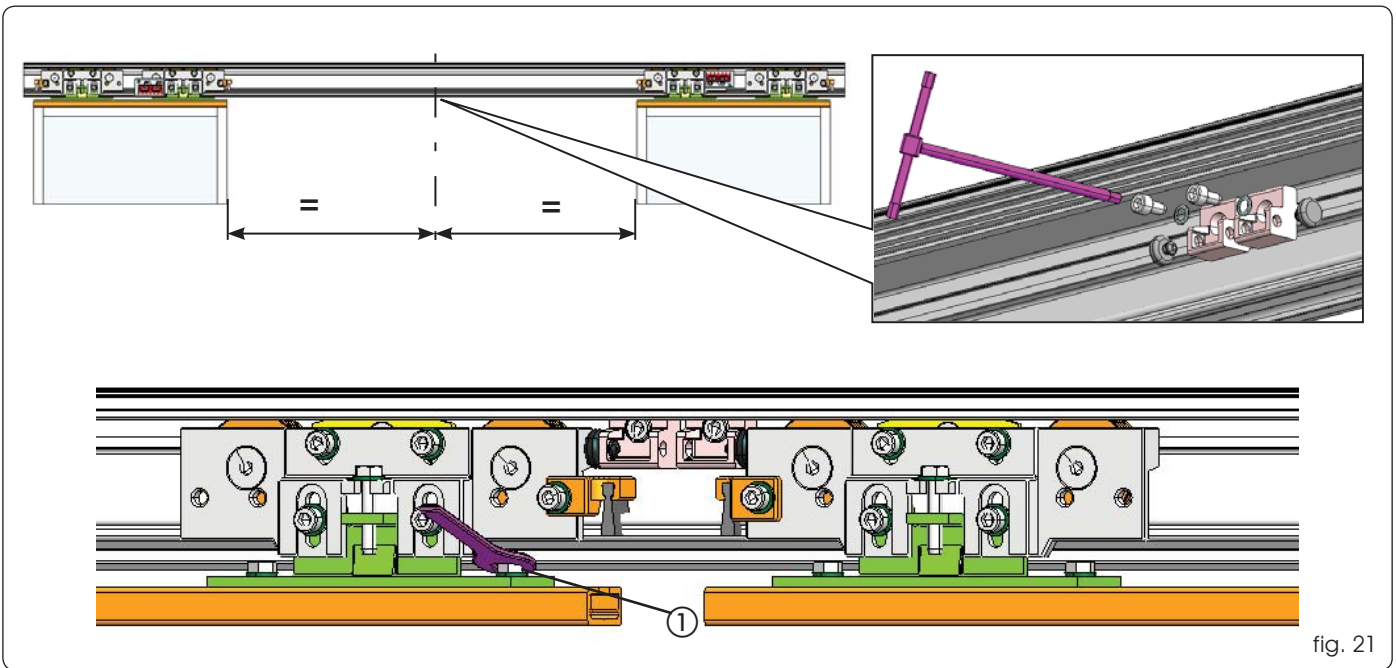

fig. 21
- Loosen the securing screws of the carriages (Fig.21 ref.①).